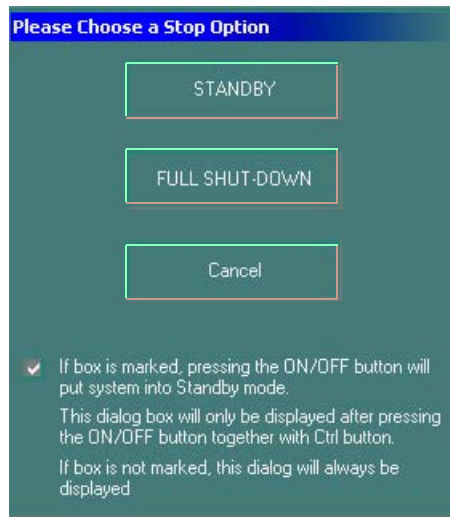

Figure 3-20 Shut-Down Options Screen
- By holding down the **On/Off** button for more than 3 seconds, the unit will display a shutdown menu, enabling the operator to shutdown the system to standby mode or to perform a full shutdown (see Figure 3-20 on page 3-34).